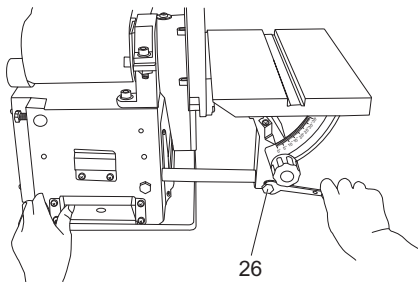

Fig. 13
- > Make sure the worktable hex screw (26) is fully tightened. If not , tighten it with the 13mm spanner. (Fig. 13)